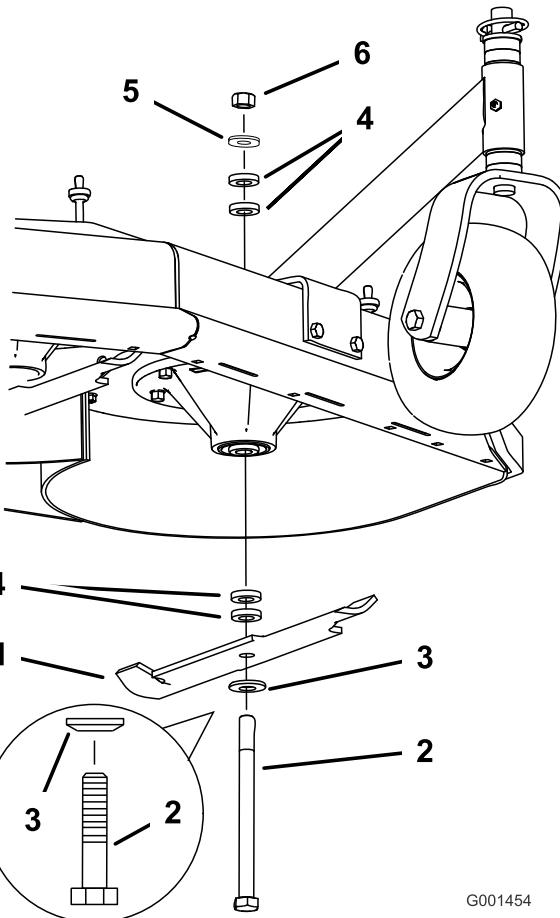

Figure 56
2. Remove the nut, blade bolt, curved washer, blade, spacers, and thin washer from the spindle (Figure 56).
1. Install the bolt, curved washer, and blade. Select the proper number of spacer(s) for the height-of-cut, and slide the bolt into the spindle (Figure 56).
2. Install the remaining spacer(s) and secure them with a thin washer and a nut (Figure 56).